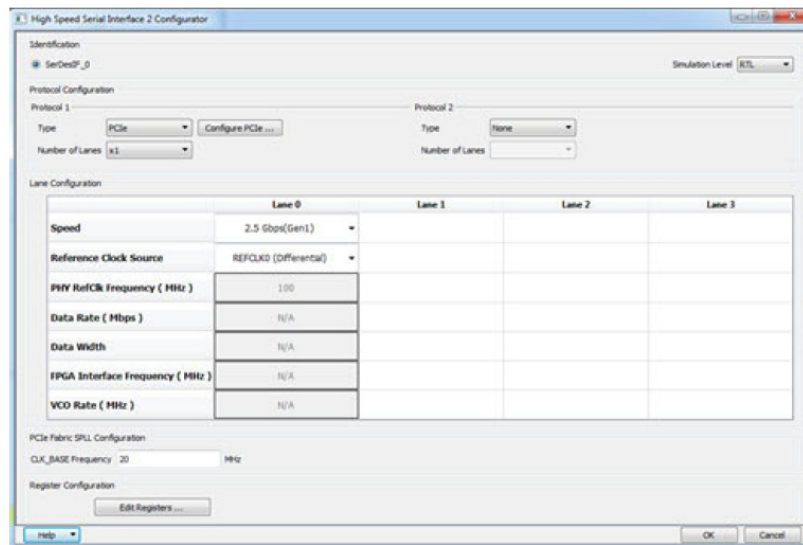
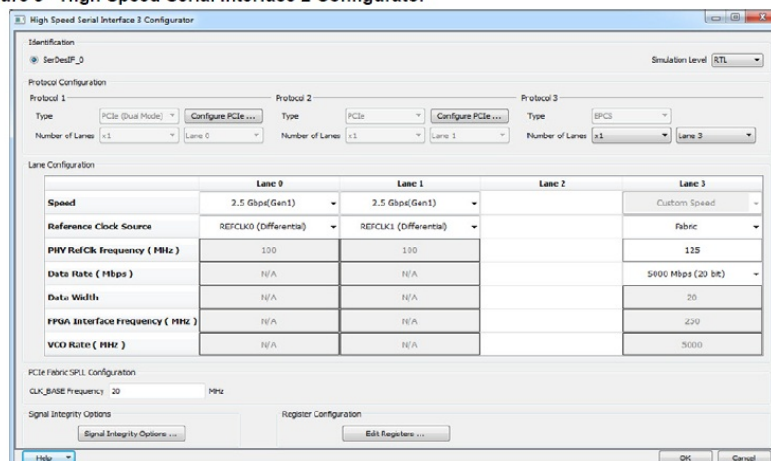

Figure 3 • High Speed Serial Interface 2 Configurator
Figure 4 • High Speed Serial Interface 3 Configurator
The High Speed Serial Interface block in the IGLOO2 M2GL090T/TS and SmartFusion2 M2S090T/TS devices (Figure 3) provides multiple high speed serial protocols, such as PCIe end-point and XAUI. In addition, it enables the FPGA fabric to connect with the External Physical Coding Sublayer (EPCS) interface and implement any user defined protocol in the fabric.
2. Double-click the SERDES block on the Canvas to open the Configurator (Figure 3 and Figure 4).